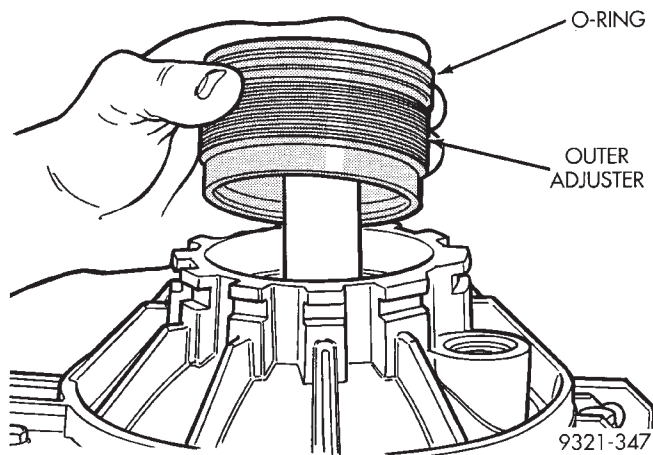

Fig. 291 Outer Adjuster Installation
(55) Install outer adjuster with new O-ring (Fig. 291). Torque the outer adjuster (special tool 6503) to the torque reading recorded in Step 30. Then seat bearings by turning differential three or four revolutions in both directions. Tighten adjuster a second time to same torque recorded in Step 30. Again reseat bearings. Repeat this sequence until correct adjuster torque is maintained.